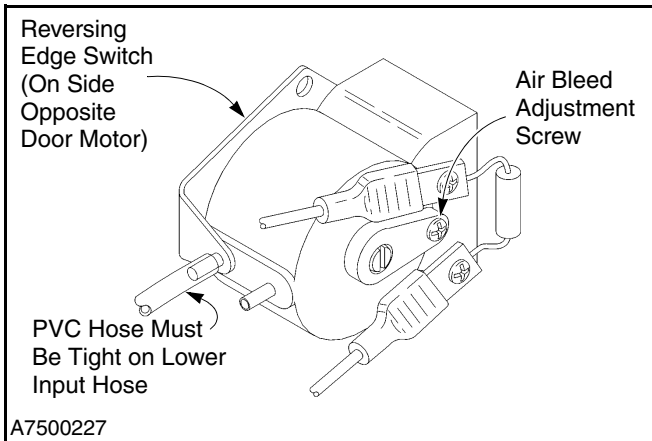

Figure 26
2. Make sure the clear PVC hose is tight on the air input post so that air leakage cannot occur and that vibration will not cause the hose to fall off. Make sure the hose is not kinked. (See Figure 26.)
3. The air bleed has been set at the factory and should not require adjustment. To check the air bleed, turn the air bleed adjustment screws located on the front and back of the switch fully clockwise but do not overtighten. Then turn the screws back counter-clockwise one full turn. (See Figure 26.)